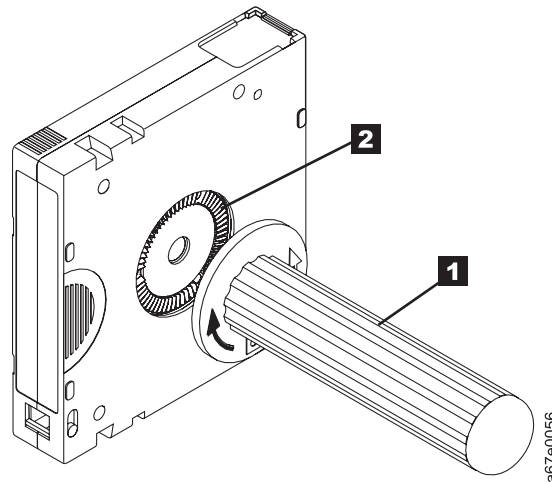

Figure 5-10. Rewinding the tape into the cartridge
5. To rewind the tape, insert the cartridge manual rewind tool (1 in Figure 5-10) into the cartridge's hub (2) and turn it clockwise until the tape becomes taut.